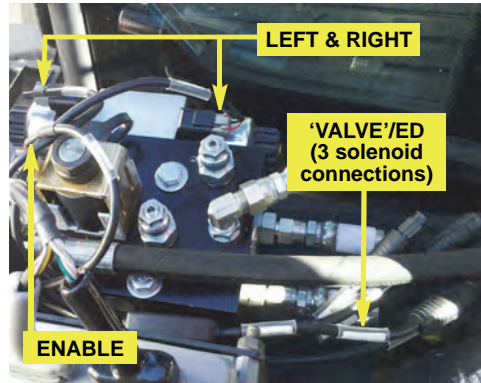

Figure 2c: Valve cable from steering controller to cable for left, right and enable solenoids
- c. Connect valve cable **ED** to **EC**'s connector labeled 'VALVE'. Connect **ED**'s three 2-pin connectors (labeled 'LEFT', 'RIGHT' and 'ENABLE') to the enable valve and two solenoid valves on the hydraulic steering block (Figure 2c).